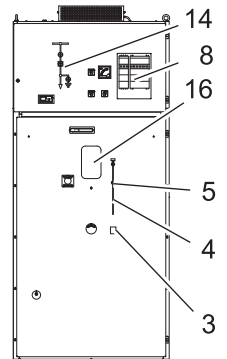

Fig. 37
- ➔ • Ensure that the circuit breaker is in the OFF switch position (see description for Fig. 37). Otherwise the circuit breaker cannot be positioned